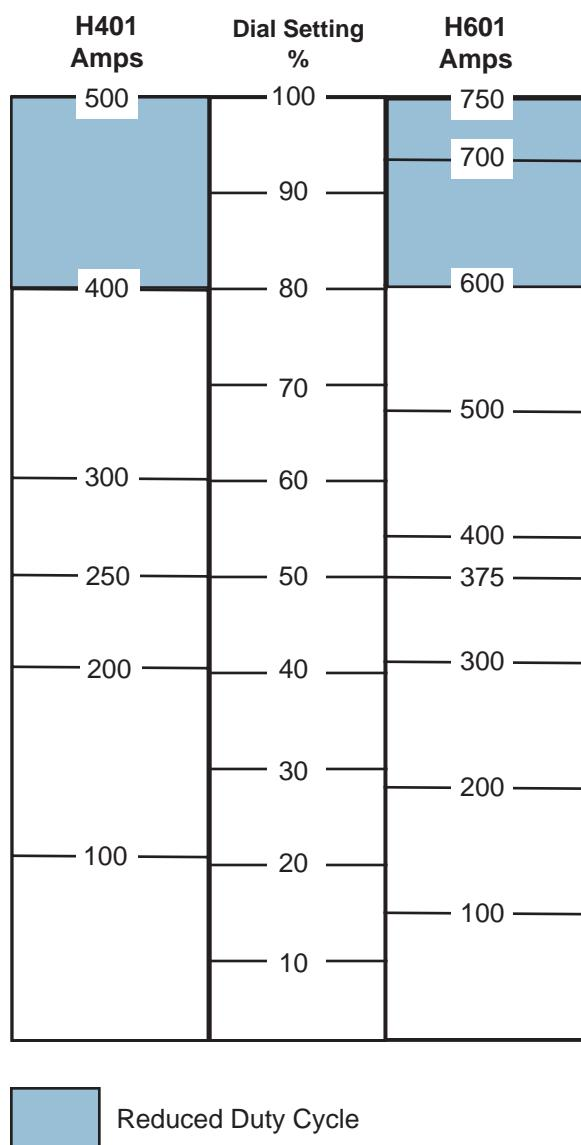

Figure 4-1 Output Current for Power Supply Dial Settings
3. Determine the proper power supply dial setting from Figure 4-1. After an arc is established, the setting may be readjusted to the exact current desired.